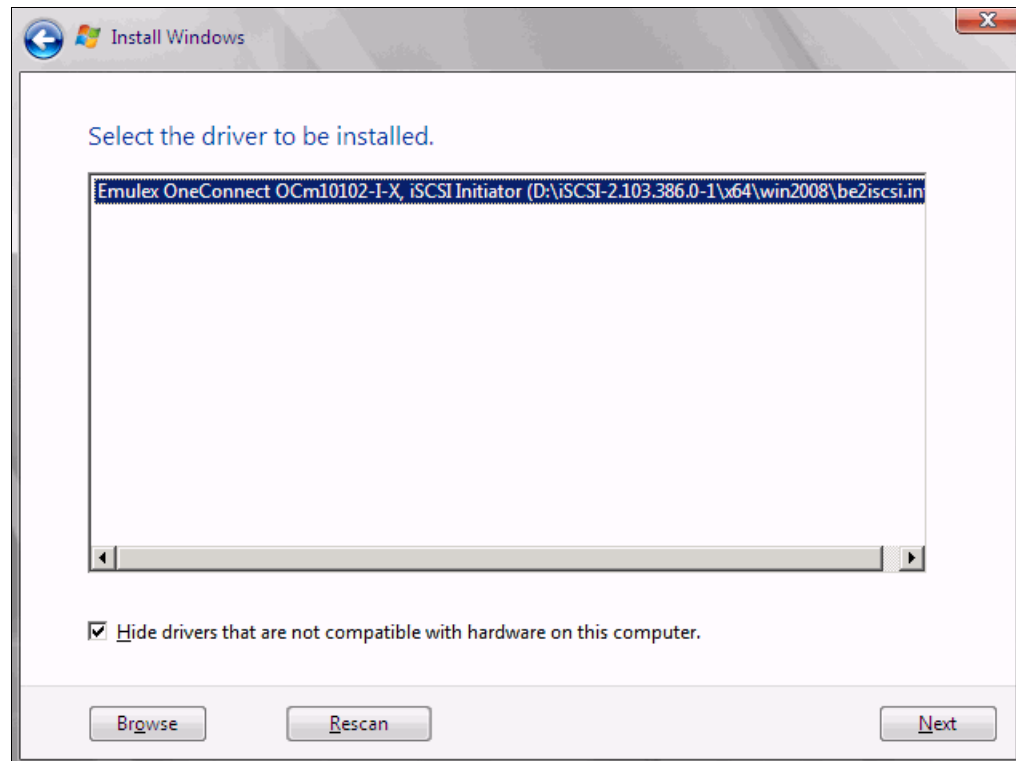

Figure 9-110 Driver selection window
18. In the “Select the driver to be installed” panel (Figure 9-110), select the driver and click **Next**.